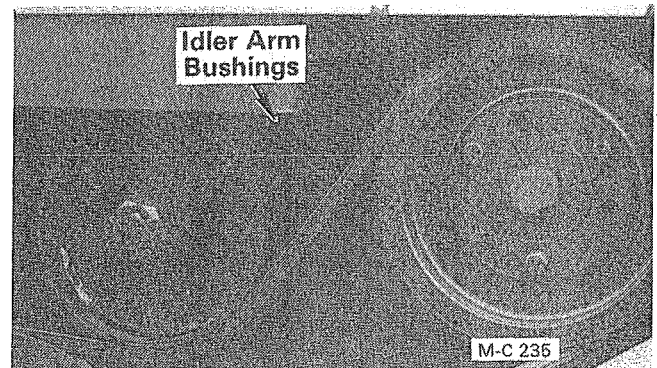

Figure 24 - Two on Model 2408
1. Idler arm bushings. One fitting behind the belt guard cover, see Figure 24 (two on Model 2408).